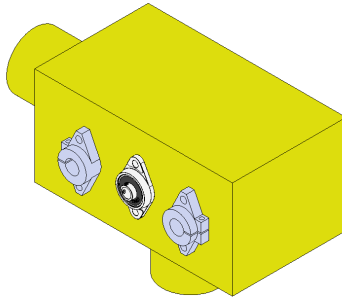

Figure 14: *Y-Axis right auxiliary support* with two (2) SHF12 supports and KFL08 bearing.
8. Repeat the last step with the *Y-Axis right auxiliary support*. Mind the insert type for each hole of the component and the position of the SHF12 supports. The assembly is shown on figure 14.